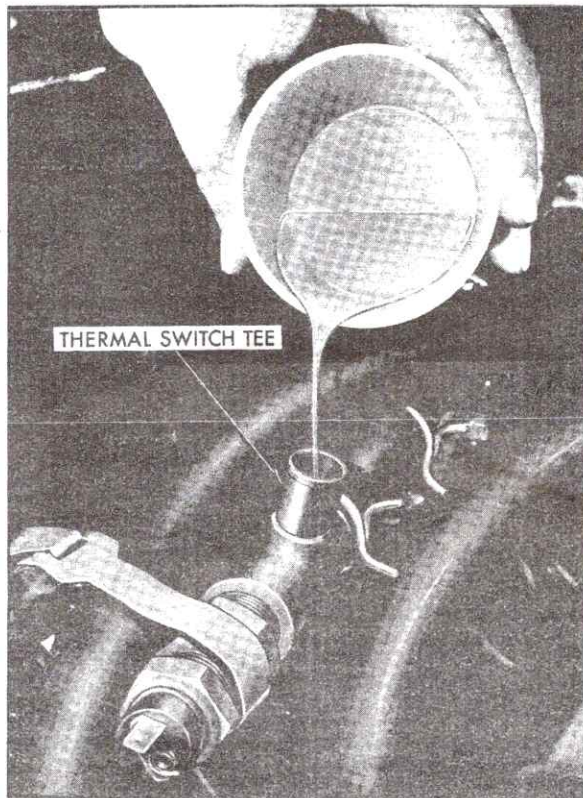

Fig. 15-47 Cooling Thermal Switch
3. Drain enough coolant from system to prevent coolant loss when top hose is removed. Remove top hose to thermal switch tee clamp and disconnect this hose. Pour a cup of cold water over tee, Fig. 15-47. Again touch one lead of self-powered test lamp to male connector and other to base of switch. Lamp should light. If lamp does not light, replace switch.